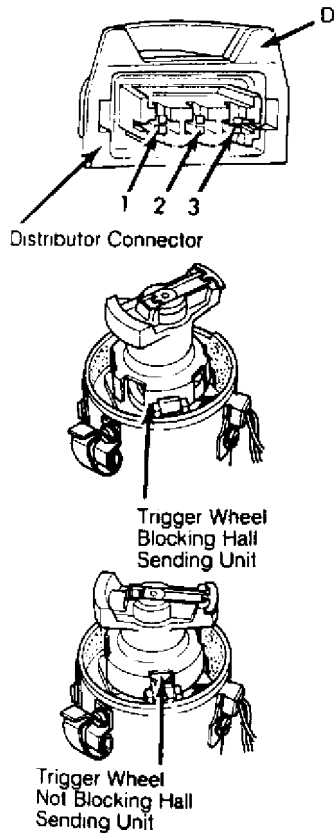

Fig. 5: Positioning Distributor for Hall Effect Testing
3) Turn crankshaft until trigger wheel blade blocks Hall sender. See Fig. 5. Voltmeter reading should be greater than 4.0 volts. Turn crankshaft until trigger wheel slot is fully aligned with Hall sending unit. Voltmeter should read 0-.5 volts.